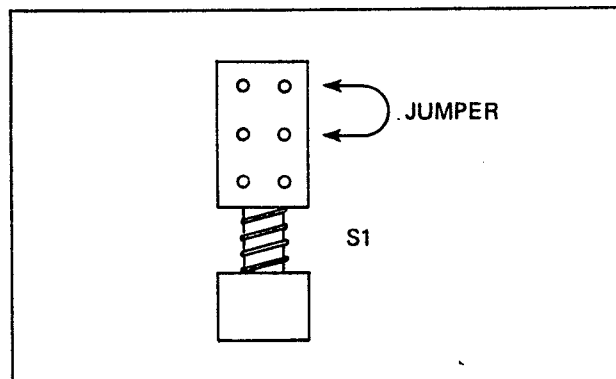

Figure 5.3 - Cal-Switch, Top View
5.3.4.7.1 When calibration is performed via the GPIB, it is convenient to short the Cal-Sw terminals with a temporary jumper. The Cal-Sw drawing shown in Figure 5.3 indicates the location of the jumper.